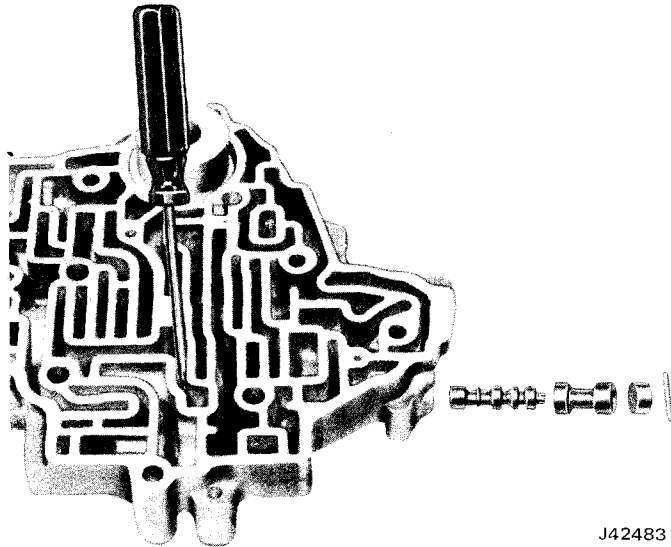

Fig. 2C-63 Detent and Regulator Valve
- (1) Install front accumulator spring and piston (fig. 2C-58).
- (2) Install spring and piston. Install Tool J-22269-01, compress piston and install E-ring retainer (fig. 2C-61).
- (3) Install 1-2 accumulator primary spring or secondary spring (if equipped) and install 1-2 accumulator valve in lower left bore.
- (4) Install bore plug.
- (5) Install grooved retaining pin from cast surface